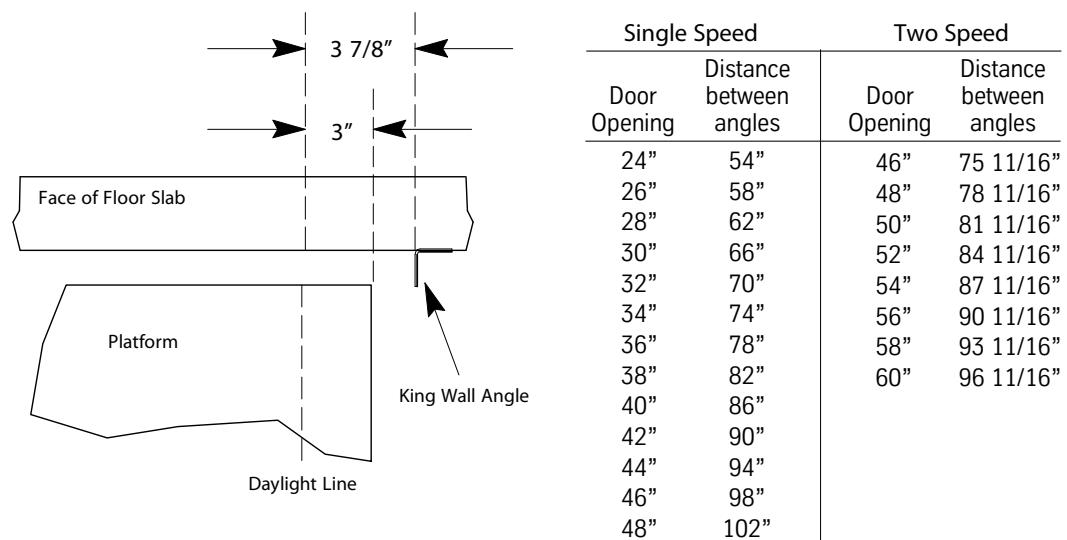
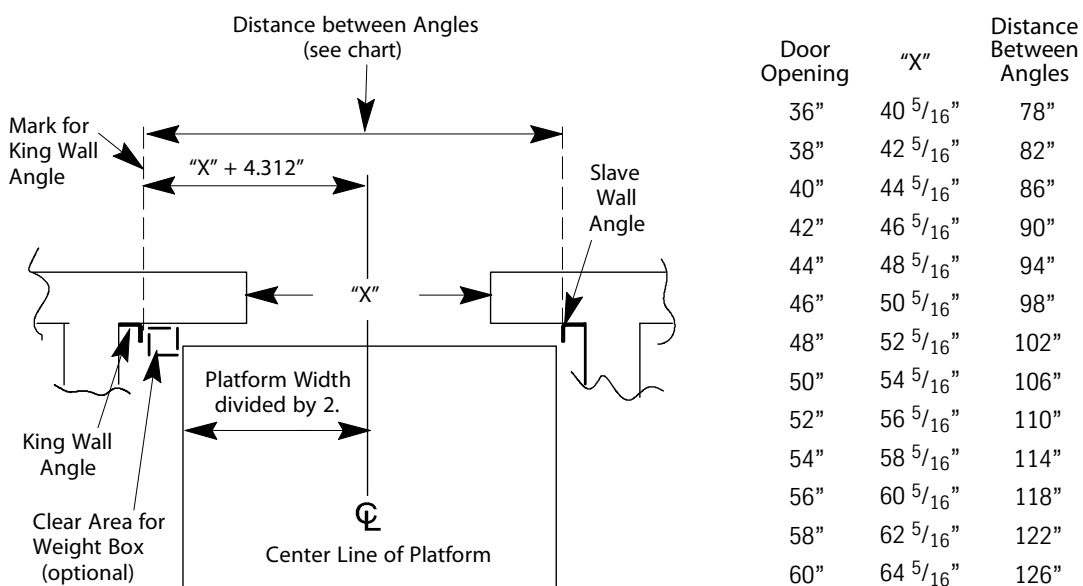

Figure 17 - Distance Between King and Slave Wall Angles (1 of 2)
Figure 18 - Distance Between King and Slave Wall Angles (2 of 2)
- Single Speed and Two Speed Handed Opening Doors - Measure and mark 3" from the platform edge on the strike side. See Figure 17.
- Single Speed Center Handed Opening Doors - Mark the center of the platform using this formula: Platform Width ÷ 2. See Figure 18 on page 25.
1. Push the slave wall angle to the outside so that the two wall angles are as far away from each other as possible. For angle distance, see Figure 17 on page 24, and Figure 18 (above).